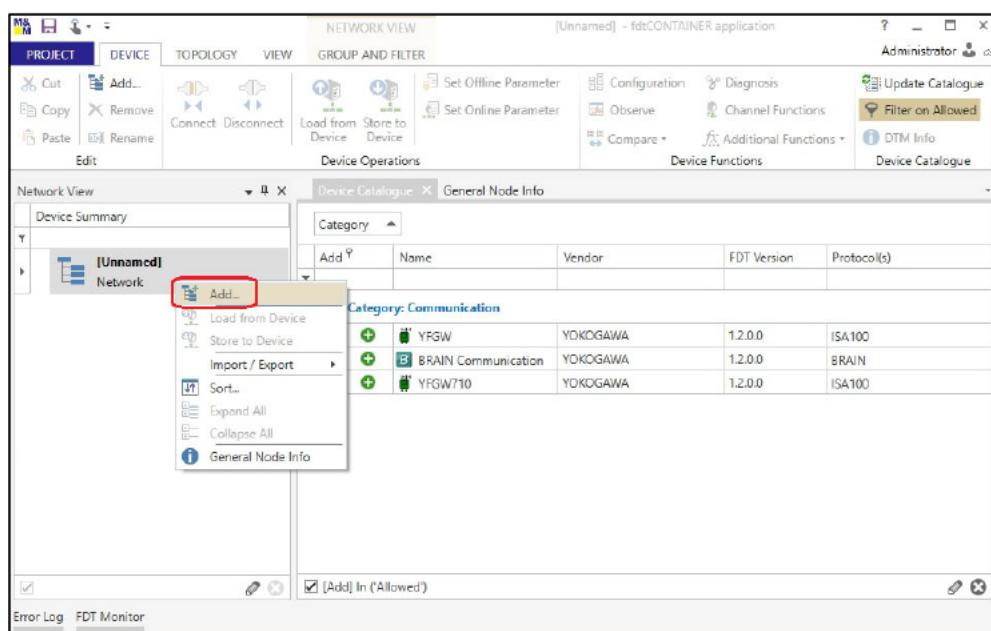

Figure 5-39 Selecting "Add..." menu
- ① First launch the DTM for the ISA100.11a wireless upstream system. Right-click "[Unnamed] Network" in the tree menu on the left side of the fdtCONTAINER main window, then select "Add...".
- (Figure 5-39)